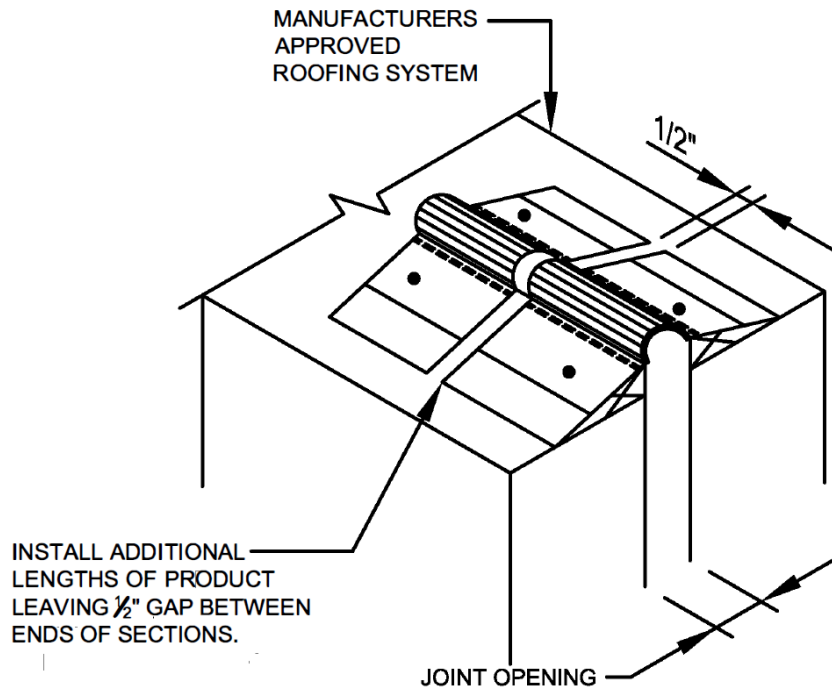

Figure 4
4. Repeat steps 1 - 3 for remaining sections of EEJ being sure to provide $\frac{1}{2}$ " gap between ends of sections. Provide full splice at each of these locations as described in the splicing installation instructions below. **See Figure 4**